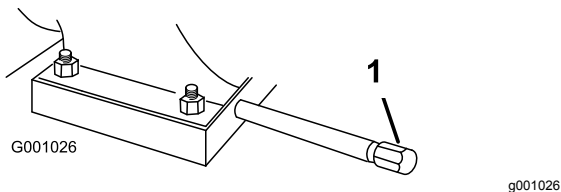

Figure 40
2. Clean the area around the oil-drain cap (Figure 40).